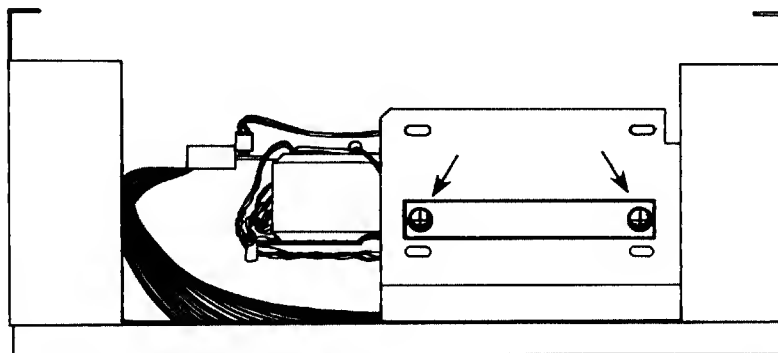

Figure 3-4B: MD II - Revision B and C Chassis - Drive Removal
- a. If removing the A drive, remove the two screws on the support bracket (see Figure 3-4B).